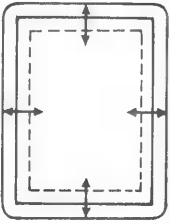

Fig. 5
- 7. Tilt the DY left and right, match the R and B for H line of up and down side and V line of left and right side. (Fig. 5)